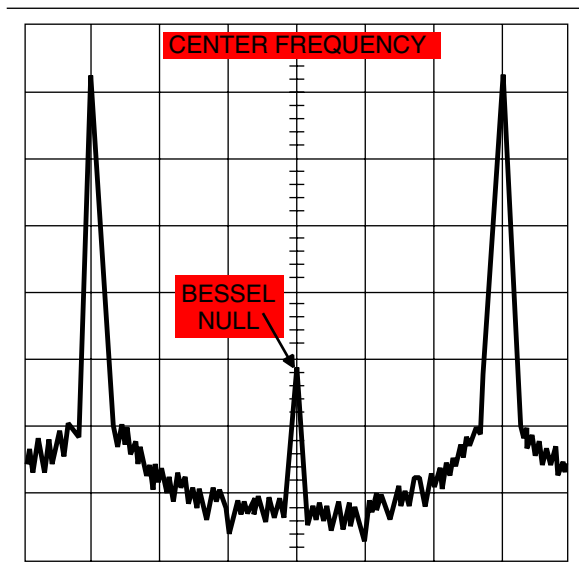

Figure 4-11. Typical Spectrum Analyzer Display of Bessel Null on FM Waveform
- e. While observing the first Bessel null (Figure 4-11) on the Spectrum Analyzer display, adjust the value of the DAC's setting to reduce the carrier level as low as possible.
- d. While observing the first Bessel null (Figure 4-11, page 4-37) on the Spectrum Analyzer display, adjust the value of the DAC's setting to reduce the carrier level as low as possible.
- f. While observing the first Bessell null (Figure 4-11, page 4-37) on the Spectrum Analyzer display, adjust the value of the DAC's setting to reduce the carrier level as low as possible.